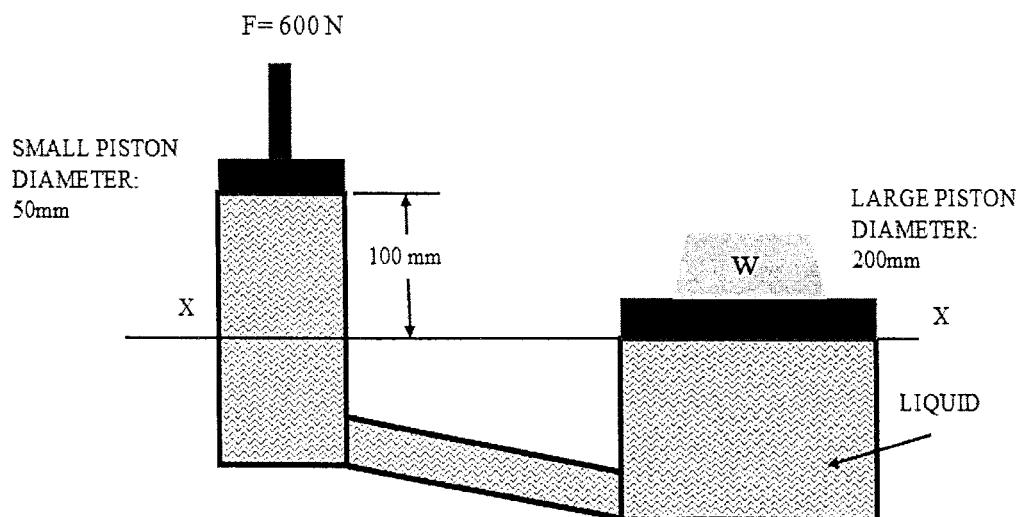

Figure 2(b) / Rajah 2(b)
- b) A force of 600 N is applied on the small piston for the hydraulic jack system shown in Figure 2(b). Compute the load lifted by the large piston if the specific weight of the liquid in the jack is  $9810 \text{ N/m}^3$ .